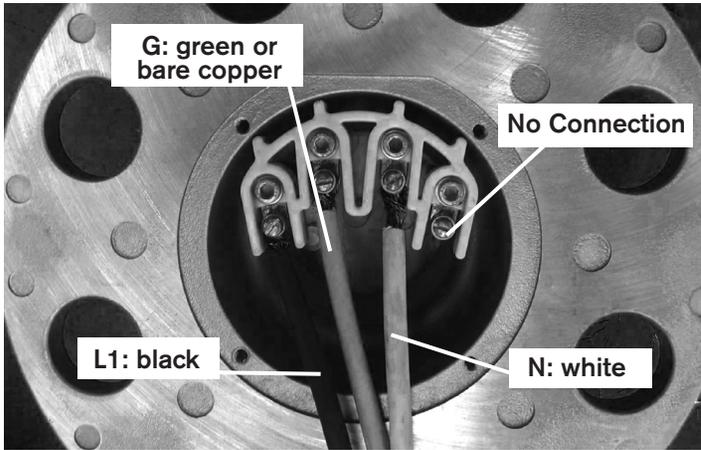

Fig. 4 Wire run to the yaw connection (120 V, 60 Hz, single phase).
- **120 V, 60 Hz, 1 Phase Systems:** Connect the black and white wires to the corresponding color coded terminals on the Skystream yaw. Connect green or bare copper wire to green terminal. There is no wire connection to bare yaw terminal as shown in **Fig. 4**.